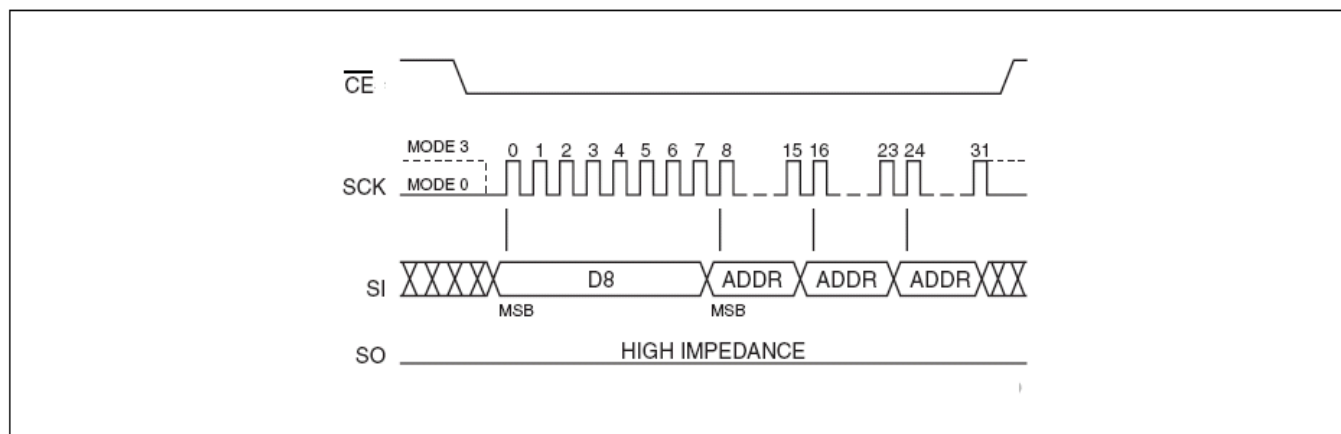

Figure 8: 64K-byte Block Erase Sequence
-A₀]. Address bits [A_{MS}-A₁₆] (A_{MS} = Most Significant address) are used to determine the block address (BA_x), remaining address bits can be V_{IL} or V_{IH}. \overline{CE} must be driven high before the instruction is executed. The user may poll the Busy bit in the Software Status Register or wait T_{BE} for the completion of the internal self-timed Block Erase cycle. See Figure 8 for the Block Erase sequence.